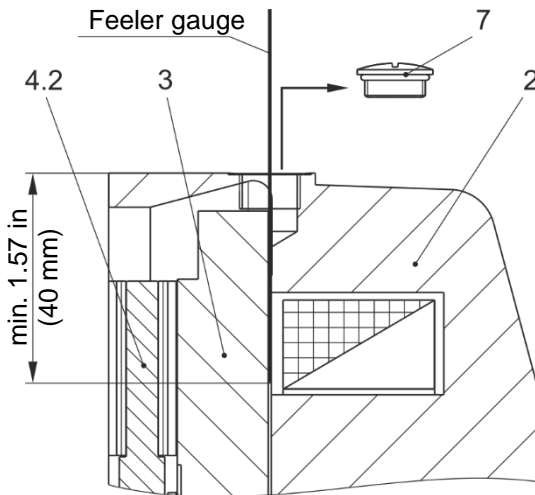

Fig. 33
The air gap can be inspected via a feeler gauge after removing the sealing plug / screw plug (7). The feeler gauge must be inserted at least 1.57 in (40 mm) deep (see Fig. 33), so that the distance between the armature disk (3) and the coil carrier (2) can be measured.